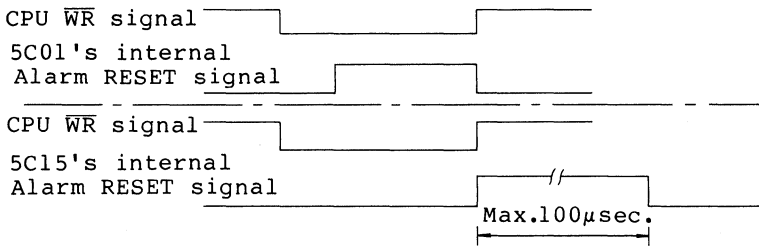

Fig. 9-4
- (1) When the Alarm F/Fs are reset, the contents of all the Alarm Registers are treated as matching the corresponding clock counters, and an ALARM signal will be output externally. Alarm EN should therefore be set to 0 before resetting the alarm.
(2) In the case of the RP5C15, no data can be written to the Alarm Register for 100 μ sec. after the Alarm F/Fs have been reset. This is because an Alarm Reset signal lasting a maximum of 100 μ sec. is generated internally after the leading edge of \overline{WR} . In contrast to this, the Alarm Reset signal in the RP5C01 is generated within the duration of $\overline{WR} = \text{low}$, making it possible to write data into the Alarm Registers immediately (See Fig. 9-4).